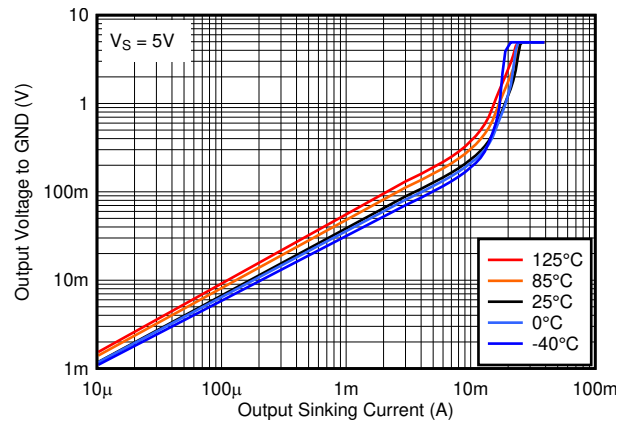

Figure 5-20. Output Low Voltage vs. Output Sinking Current at 5V
- $R_{CE}$  can be determine by taking the slope of Figure 5-20 in the linear region at the desired temperature, or by dividing the  $V_{OL}$  by  $I_{out}$